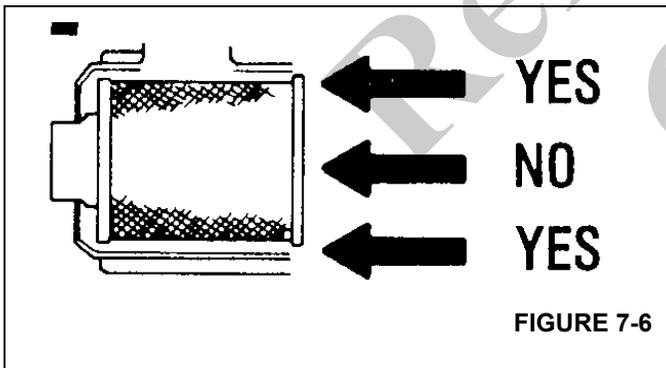

FIGURE 7-6
- b. **INSERT THE FILTER PROPERLY.** Refer to (Figure 7-6). The seal area is on the inside of the open end of the primary filter. A new filter has a dry lubricant to aid installation. The critical sealing area will stretch slightly, adjust itself and distribute the sealing pressure evenly. To complete a tight seal, apply pressure at the outer rim of the filter, not the flexible center. No cover pressure is required to hold the seal.